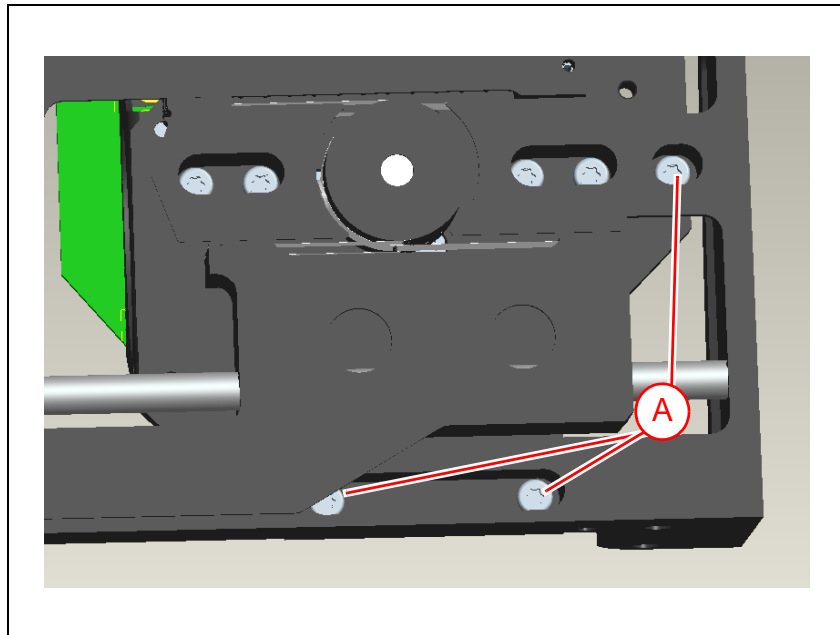
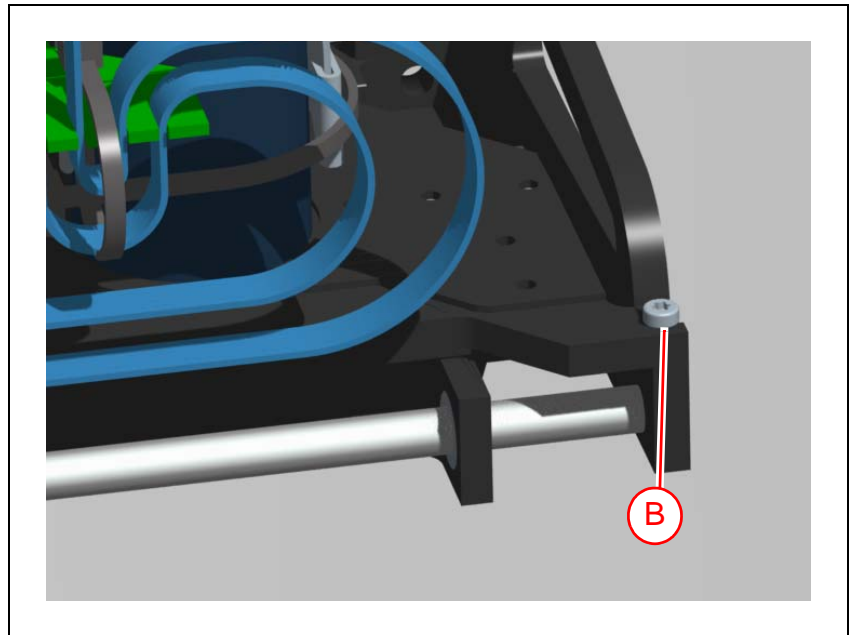
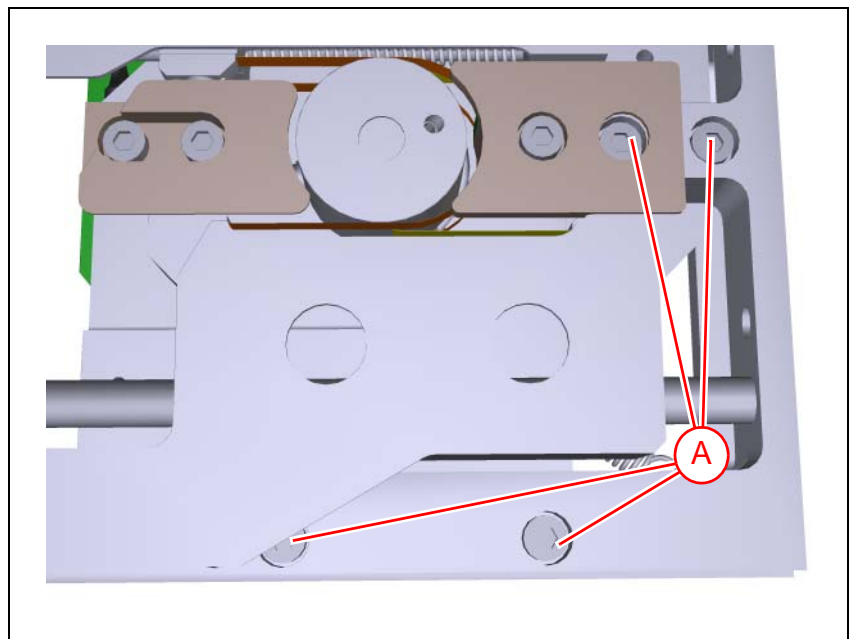

Figure 8-4. Loosen locking screws, right centering unit (Bottom view).
Figure 8-5. Loosen locking screws, right centering unit (Top view).
Figure 8-6. Old bottom view of right centering unit.
- On the right centering unit, use a **Torx** key (T10) to loosen three locking screws on the bottom side ('A' in Figure 8-4) and a smaller **Torx** key (T8) to loosen one locking screw on the top side ('B' in Figure 8-5) Make sure the motor plate moves freely.
- Earlier models of the right centering unit used four **Allen** screws on the bottom side only, see Figure 8-6.
- 6. Tighten the locking screws (see Figure 8-4 and Figure 8-5) on the motor plate while holding the centering jaws firmly. Begin with the larger torx screws on the bottom side and finally the small one on the top side. For older right centering units, use the same procedure, but tighten the locking screws according to Figure 8-6.